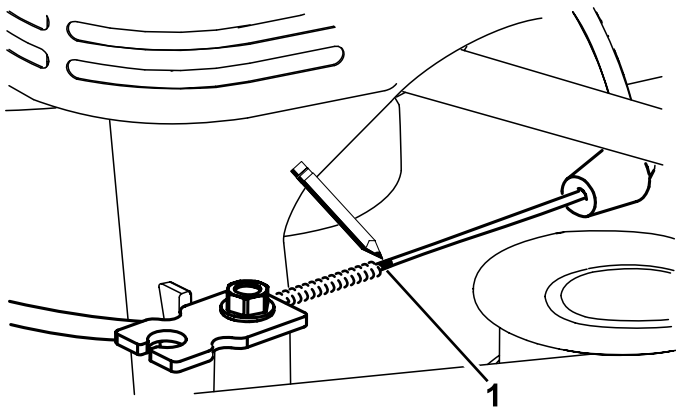
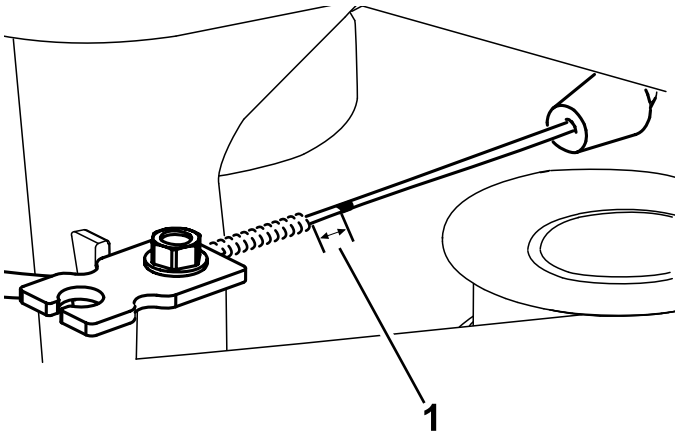

Figure 43
Figure 44
7. Mark the brake cable (Figure 43), then adjust the jacket until there is approximately 11 mm (7/16 inch) of slack (Figure 44).